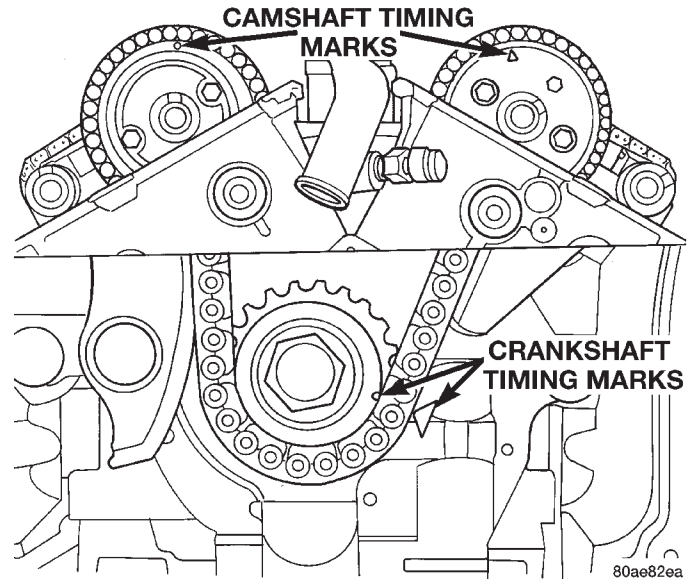

Fig. 54 Timing Mark Alignment
(3) Align crankshaft sprocket timing mark to mark on oil pump housing (Fig. 54). The mark on oil pump housing is 60° ATDC of #1 cylinder.